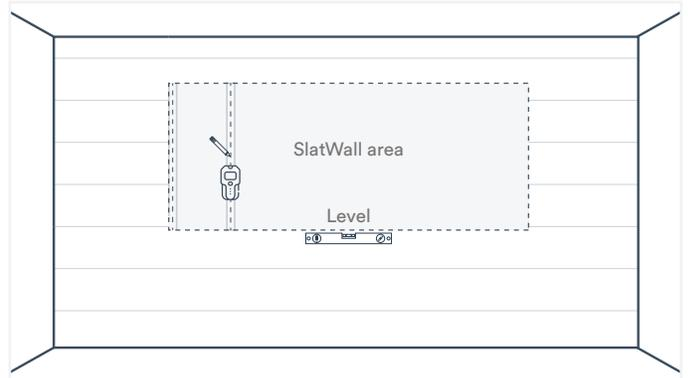

Fig. 27
3. Install your Trusscore Wall&CeilingBoard panels as previously detailed, leaving an opening for your SlatWall installation as determined by the spacing guidance provided in Step 1 (Fig. 27).